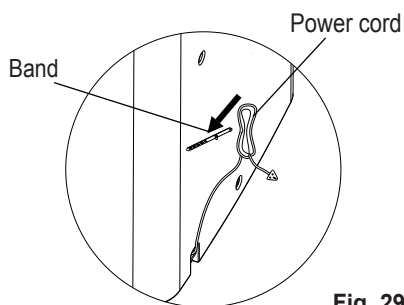

Fig. 29
- Stop the appliance and unplug it. Wrap the cord and bundle it with the band. (See Fig. 29.) Remove the batteries from the remote control.